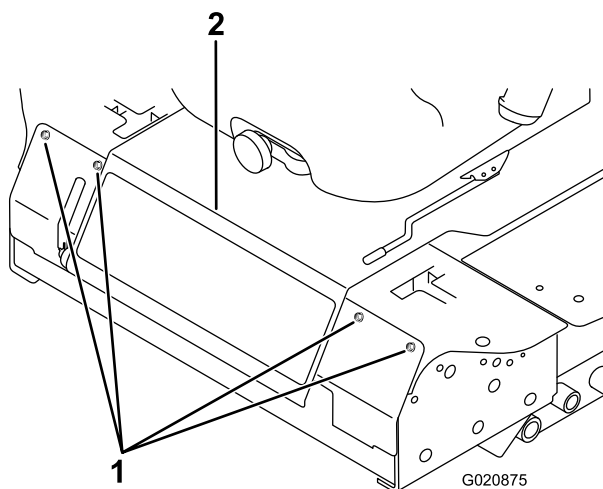

Figure 52
2. Remove the bolts securing the front panel and remove the panel (Figure 52).